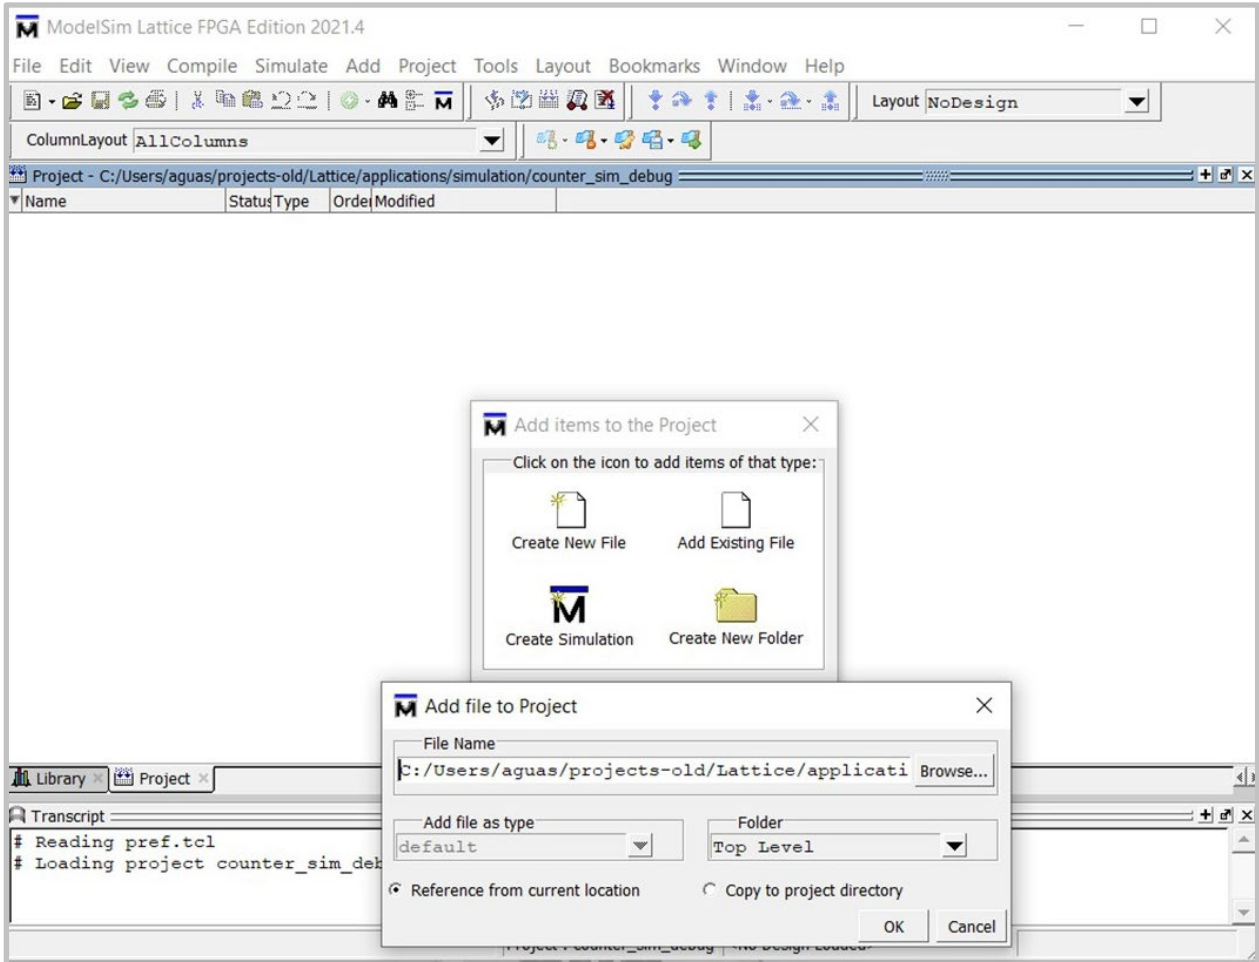

Figure 4: Adding Files to the Project
5. Click **Add Existing File** and add **counter.v** and **tcounter.v** from `<project dir>\Lattice\basicSimulation`, see **Figure 4**.